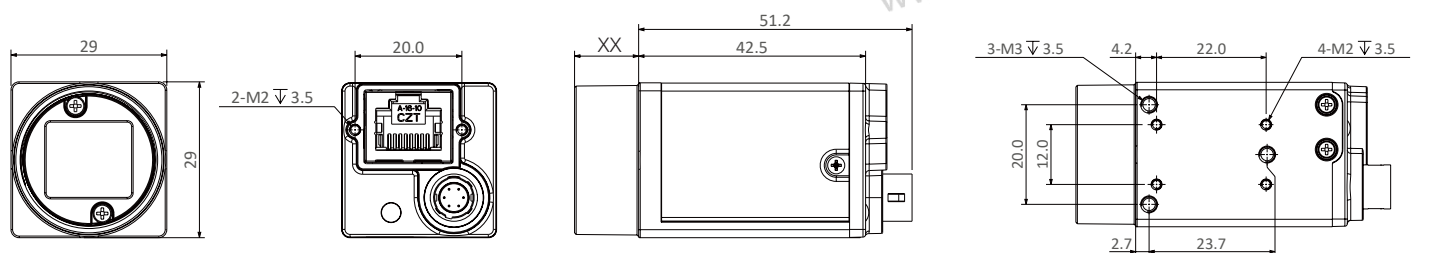

Fig. 1-1: Mechanical Dimensions (in mm) for GigE Cameras with 29\*29\*42mm housing.
- GigE Cameras with 29 \* 29 \* 42mm housing are as shown in Figure 1-1.